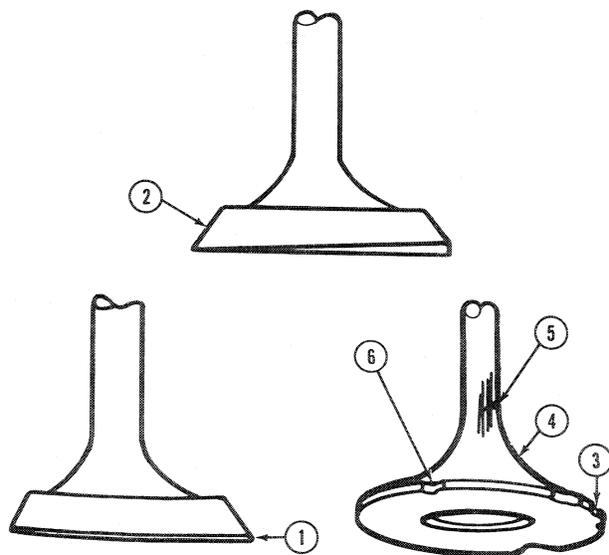

FIGURE 1-32
1. Using a soft wire brush, clean all carbon deposits from the valves. Inspect the condition of the valves and discard any that are badly burned, cracked or bent as shown, Figure 1-32.